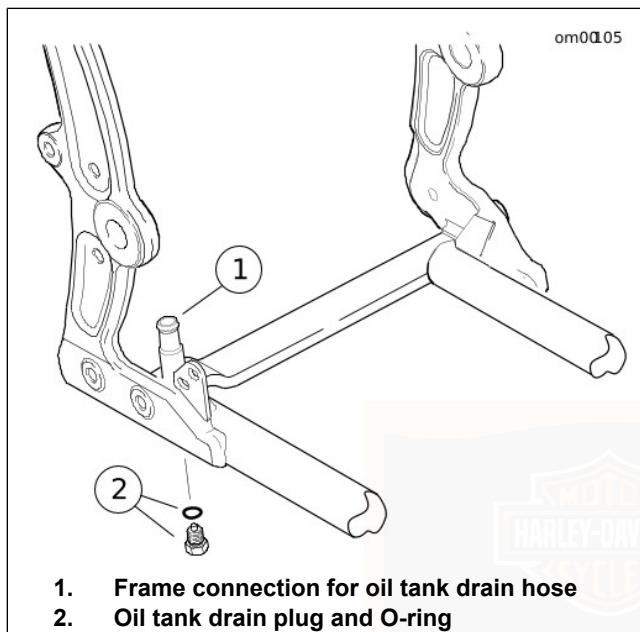

Figure 27. Oil Tank Drain Plug: Softail Models
2. See Figure 27. Remove engine oil drain plug with O-ring (2). Allow oil to completely drain into a suitable container.